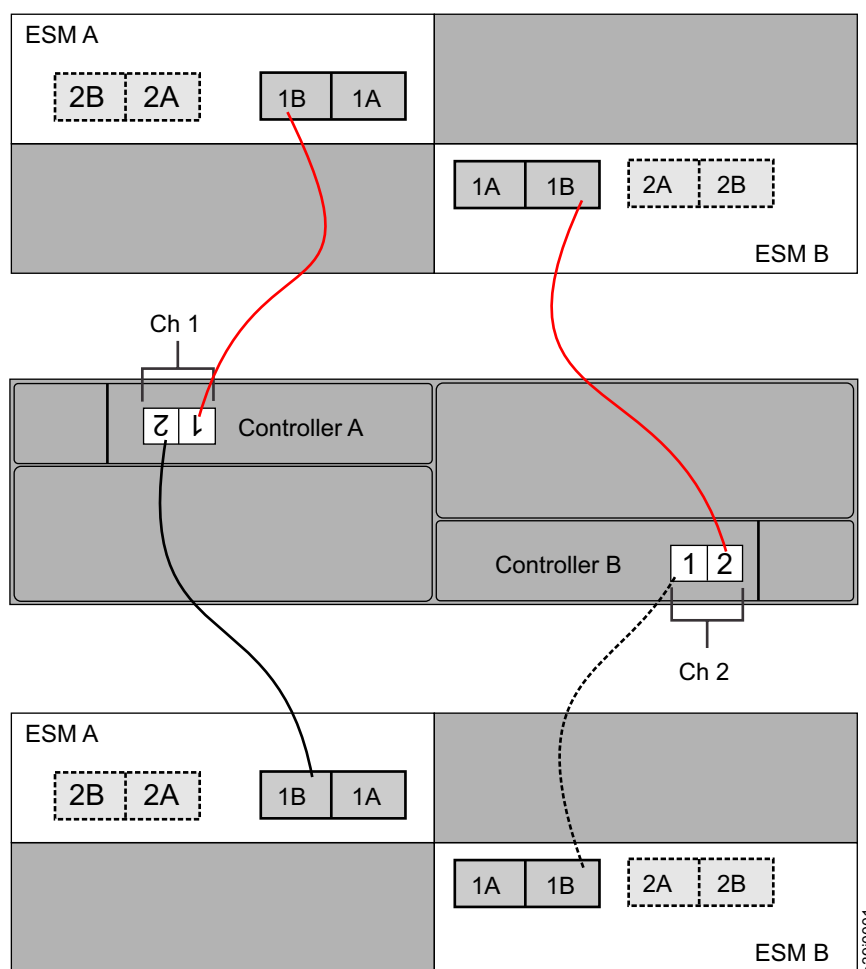

Figure 25. Round-robin cabling to the EXP395
- It is recommended that you add storage expansion enclosures to the EXP395 drive ports in a round-robin fashion. For example, if you have two EXP395s to be cabled to the DS3950, instead of cabling both EXP395s to one drive port of a drive channel, distribute the enclosures to all drive ports, which results in one enclosure per drive port of a drive channel. See Figure 25 on page 41 for an illustration.